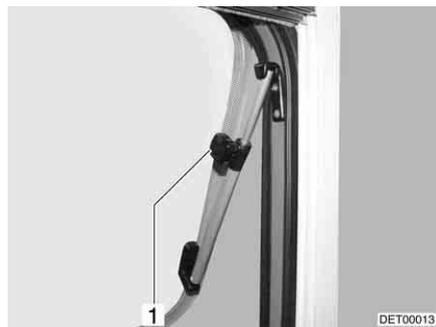

Fig. 70 Hinged window with rotary hinges
- Open the hinged window until the required position has been reached and use knurled knob (Fig. 70, 1) to secure in position.
- Turn knurled knob (Fig. 70, 1) until the latch is released.